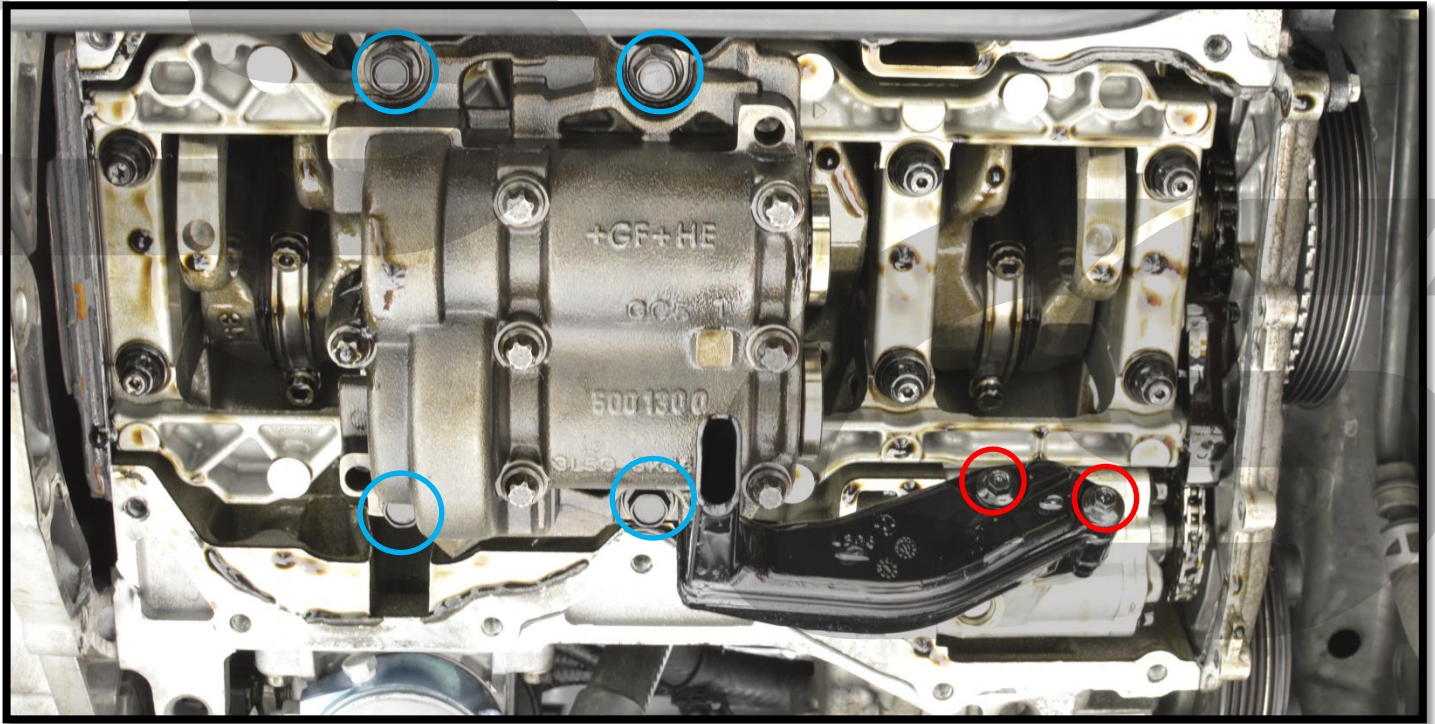

Figure 4a
- a) Remove two (2) 8mm bolts from the oil strainer. Then remove the oil strainer. Bolts are circled in red in Figure 4a.
- b) Remove four (4) 14mm bolts from the balance shaft. Then remove the balance shaft. Bolts are circled in blue in Figure 4a.